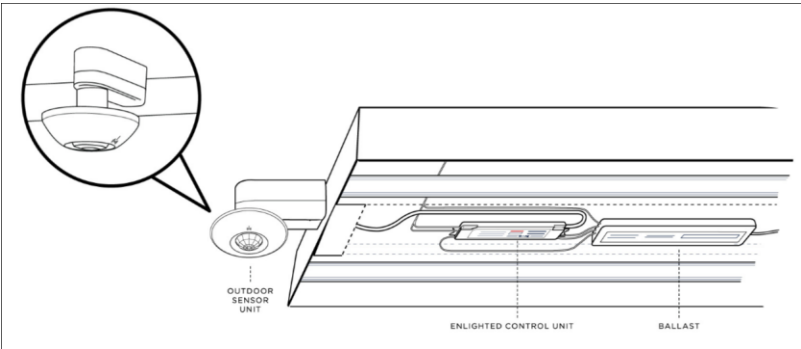

Figure 1: Fixture Combo
2.	Ensure the RJ12 data cable is installed and connected to the Enlighted Control Unit mounted in the ballast cavity of the fixture or mounted in a ULapproved enclosure. (See Figure 1)